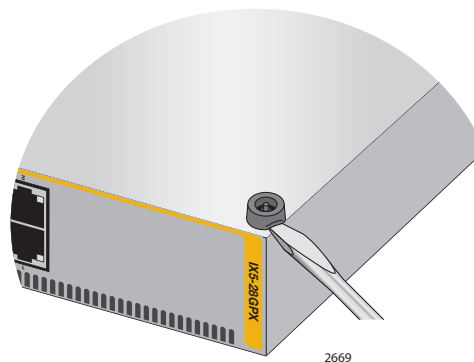

Figure 24. Removing the Rubber Feet
2. Using a flat-head screwdriver, pry the rubber feet from the bottom of the switch, as shown in Figure 24.